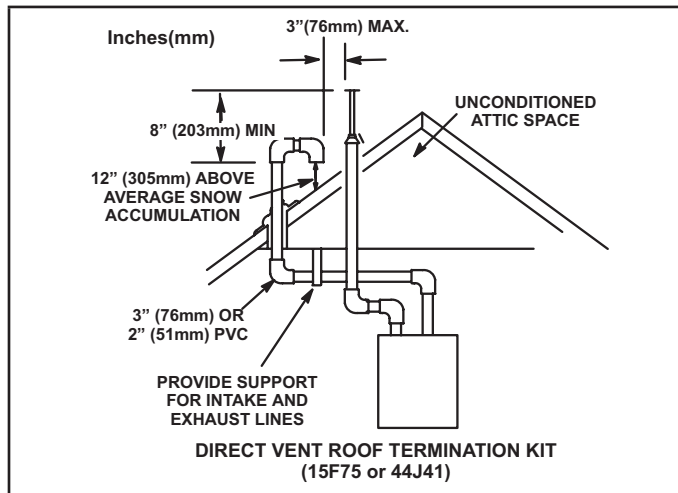

FIGURE 35
Intake and exhaust pipes may be routed either horizontally through an outside wall or vertically through the roof. In attic or closet installations, vertical termination through the roof is preferred. FIGURE 35 through FIGURE 42 show typical terminations.
- 3 - On roof terminations, the intake piping should terminate straight down using two 90° elbows (FIGURE 35).